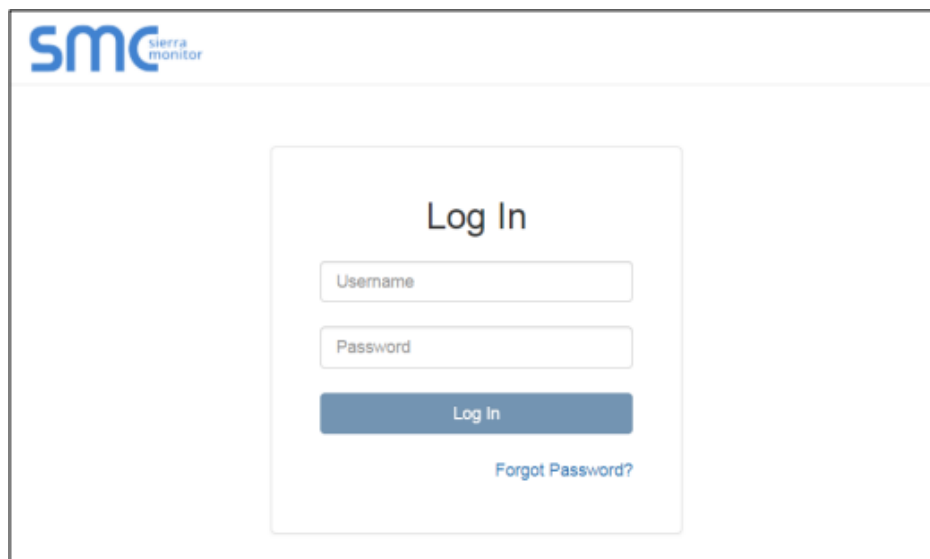

Figure 16 Log In screen
- When the login screen appears, as in figure 16, type in the Username (default is “admin”) and the Password (found on the label of the ProtoCessor).